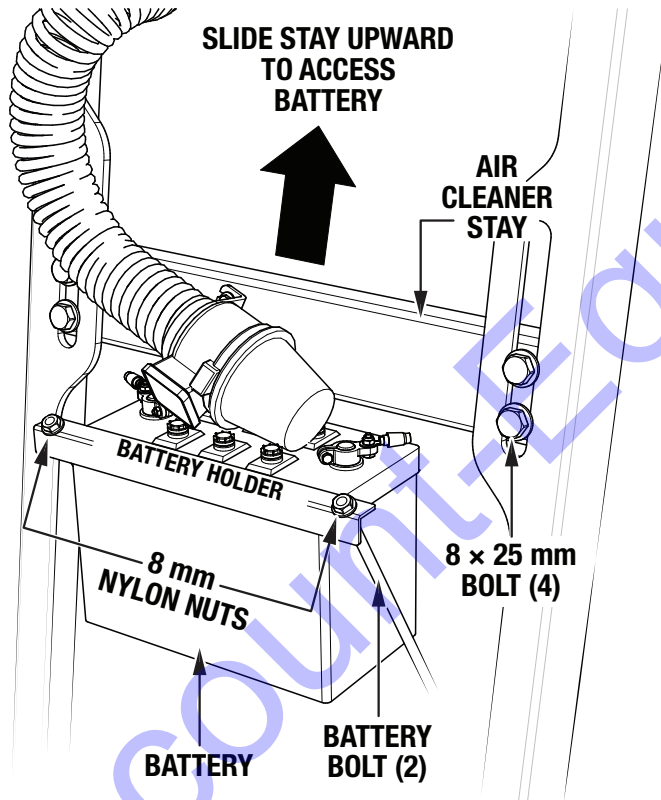

Figure 3. Battery Access
2. Loosen the four 8 × 25 mm bolts securing the air cleaner stay (Figure 3) to the frame.
3. Slide the air cleaner stay upward to access the battery, then tighten the four 8 × 25 mm bolts to secure the stay in place (Figure 3).
4. Remove the two 8 mm nylon nuts from the battery bolts securing the battery holder to the battery (Figure 3). Remove the battery holder and set the holder and fasteners aside.